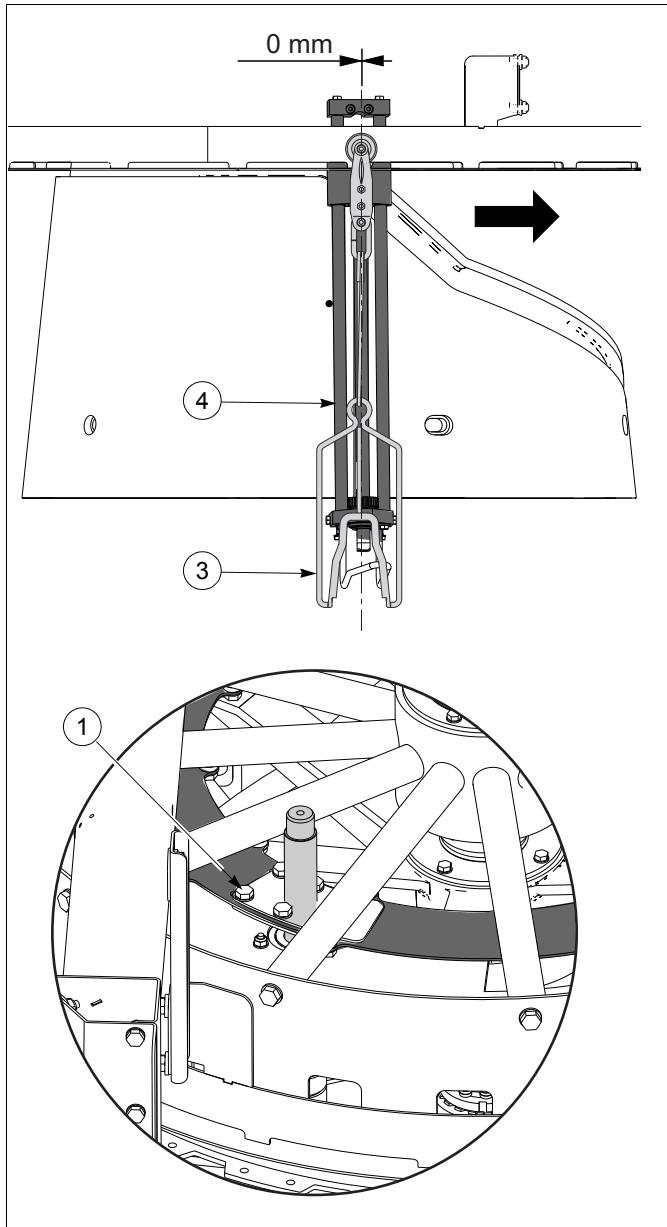

fig. 31 Adjust the timing of the spreader bracket compared to the shackle
5. During production check whether the movable washing unit is properly positioned in the products. See fig. 31.